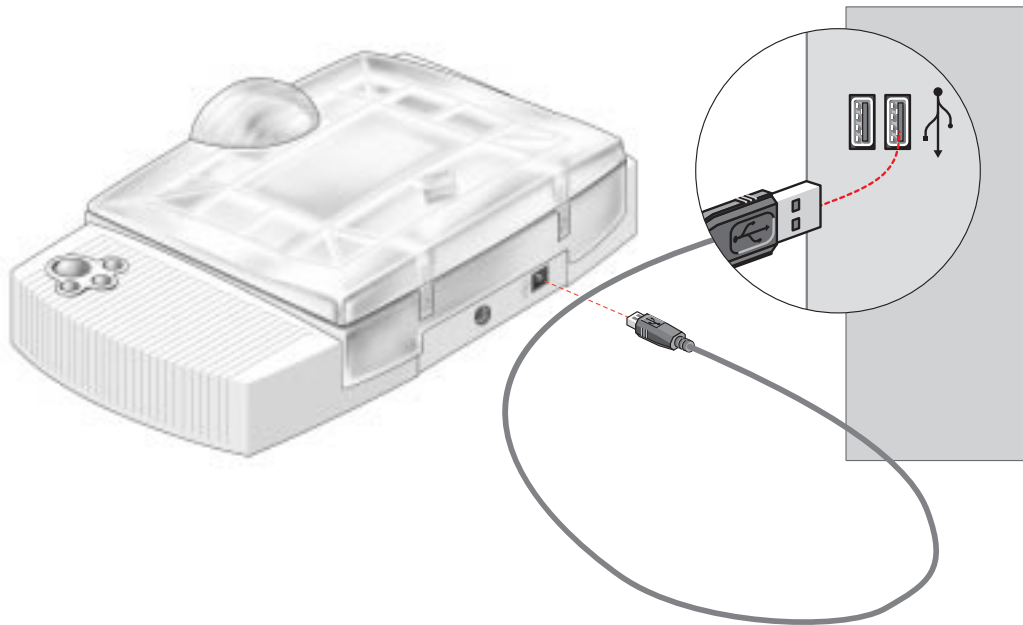

Figure 2
3. Connect one end of your USB cable to the USB port on your scanner. Make sure you connect the correct plug as shown in figure 2.
4. Connect the other end of your USB cable to a USB port on your computer. Make sure you connect it to the correct port as shown in figure 2. A USB port is marked with the USB icon .